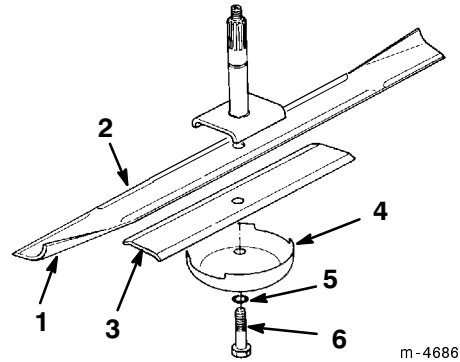

Figure 25
- Remove the blade bolt, lock washer, anti-scalp cup, blade, and spacer from the spindle shaft (Fig. 25).
4. If the blade is not balanced, file some metal off the end of the sail area only (Fig. 25).
1. Install the spacer and blade onto the spindle shaft (Fig. 25).
2. Install the anti-scalp cup, lock washer, and blade bolt (Fig. 25).